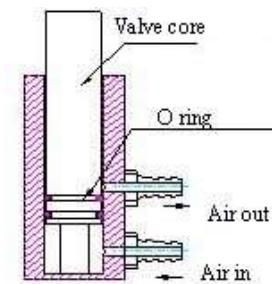

Fig. 11 Valves
- b. Loosen the locking screw and remove the tray, take out the valve core then you can find the rubber ring. (fig.11)